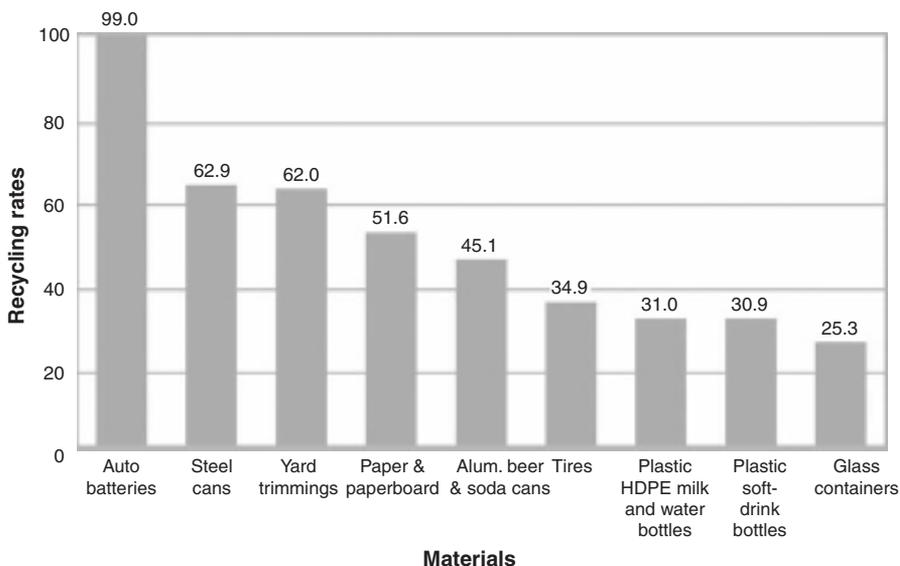

Figure 11.5
Recycling may be lower on the WMH than P² or reuse (and remanufacturing), but it is vital. Its environmental benefits include saving resources, using less energy, and producing less pollution than making a product from virgin resources.²⁰ Recycling also provides jobs. About 8500 US curbside recycling programs existed in 2005. These serve over half the population, and 84% of US cities. Recyclables could be dropped off at 12 000 other sites. Materials collected include paper, steel (tin) and aluminum cans, glass containers, plastic containers (especially #1 and #2) and waste oil (**Figure 11.5**). Although the US recycling rate increased sharply in the years before 2000, it has since almost leveled off and in 2007 was only 32.5%. However, some cities, San Francisco is one, has a 69% recycling rate; this city does not ask citizens to separate recyclables, but collects them in a single stream which are later sorted in a facility that combines machine and human separators. One way the city
Also see Figure 11.5 and see Wastes quick finder, A-Z topics. *US EPA*. <http://www.epa.gov/epawaste/index.htm>
- **Plastics**²⁵ The world produces 250 billion pounds (~113 billion kg) of plastic pellets a year. It is from these that all plastic products or plastic composite products are made from soft-drink bottles to medical equipment or cars. Plastic discards in US MSW were less than 1% by weight in 1960, but by 2006 they were 11.7%. See Box 11.3. Types of plastics included 14 million tons (12.7 million tonnes) as containers and packaging, over 6 million tons (5.4 million tonnes) as nondurable goods, and about 9 million tons (8.2 million tonnes) as durable goods. In the 11 US states in 2008 that charged deposits on beverage containers – plastic bottles and aluminum cans – recycling rates are higher than in states without deposits. Deposits are returned when the bottles are returned.²⁶ In states with deposits, more people save containers to get their money back; others add to their incomes by collecting plastic bottles and aluminum cans discarded by others. Some of the 11 states are working to increase the deposit charged; yet other states are introducing bills to start charging deposits. The average rate of recycling plastic bottles remains low (Figure 11.5). Only about 4% of plastics in the MSW stream are recycled; however, the figure for two specific plastics is higher. The rate for polyethylene terephthalate (PET) soft-drink bottles was 31% in 2007, and recovery of HDPE milk and water bottles about 31%. Recycling the PET used to make soft-drink bottles uses 47% less energy than making it from raw materials. ■ Recycling plastics poses challenges. One is collecting and separating multiple types of plastics. Another is recovering plastics from products more complicated than plastic bottles or other simple plastic products. An instance is the tens of millions of plastic casings on computers that are discarded in increasing quantities. It's even more difficult to recover plastic from composite products where plastic is only part of the composition. ■ However, once discarded plastic has been collected and sorted, it is valuable and goes into products such as Tyvek™ (disposable medical suits and insulation), fleece garments, plastic lumber, and water-repellent coatings for shipping boxes, and asphalt too. Compared to other products, plastics are often more durable, perform better, or weigh less than counterparts made from other materials. For example, plastic lumber can last much longer than real wood. Although valuable, businesses often cannot be assured of a dependable supply of used plastics. Moreover, the price that plastic recyclers pay varies with the price of oil. Most common plastics are thermoplastics; that is, they can be melted down and reshaped into new plastic products.